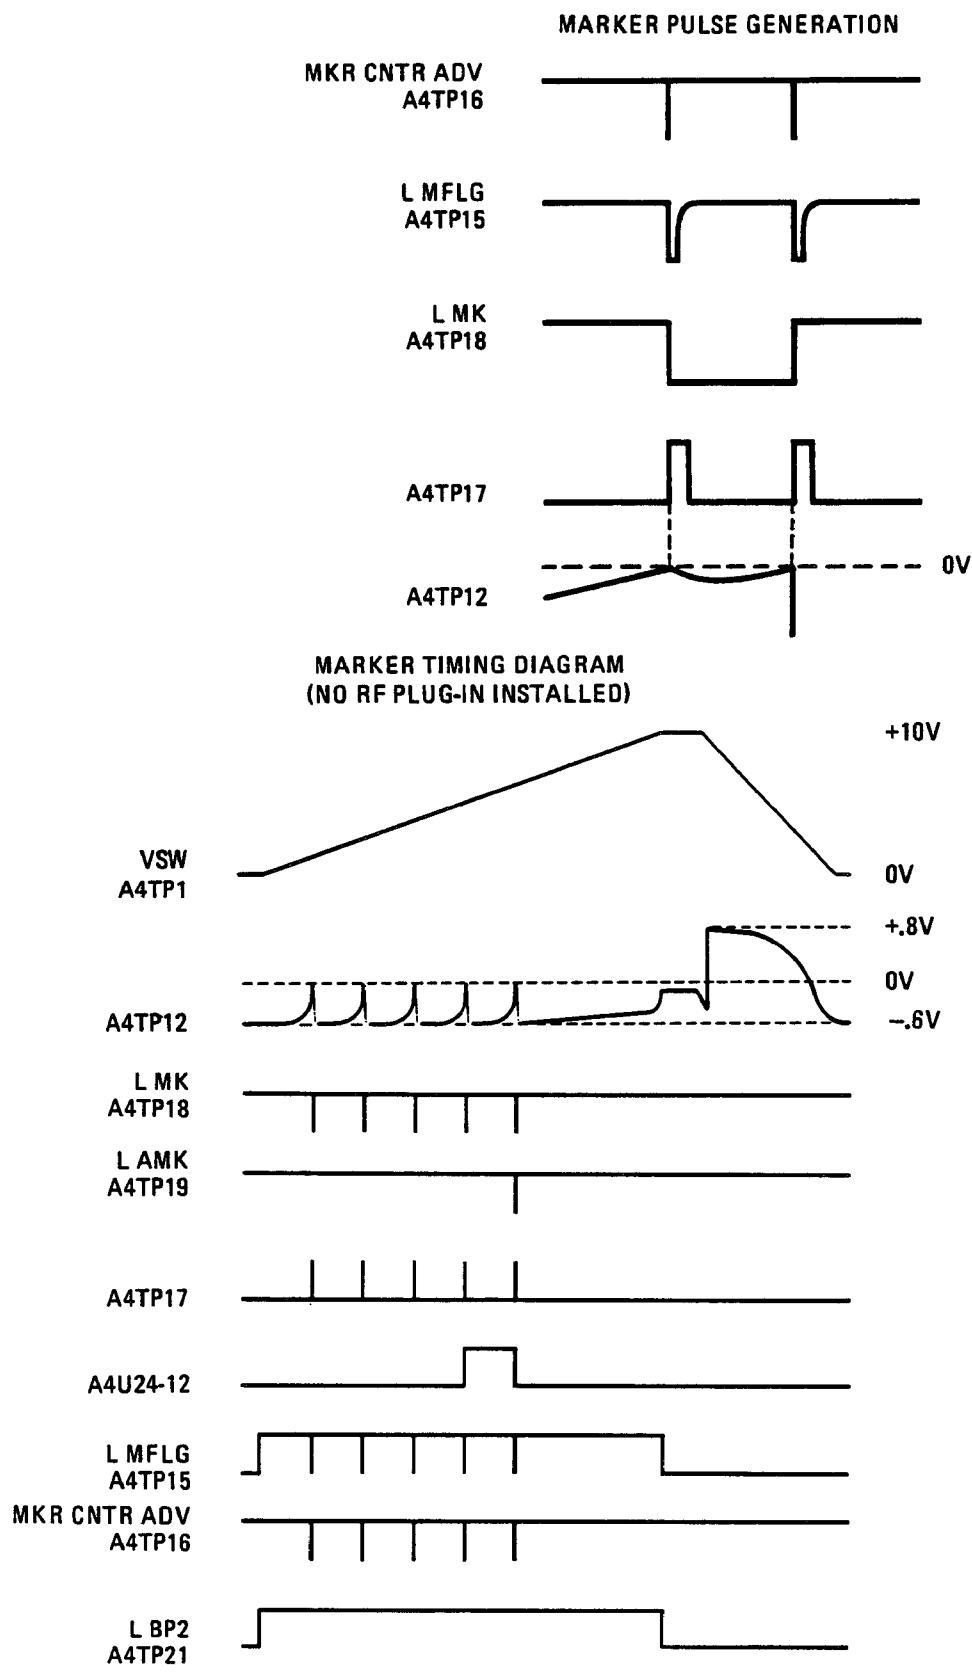

Figure 8-29. Marker Timing Diagrams
**NOTE:** In Figure 8-29, marker M5 is the active marker (last marker entered).
Verify the waveforms located in Figure 8-29.